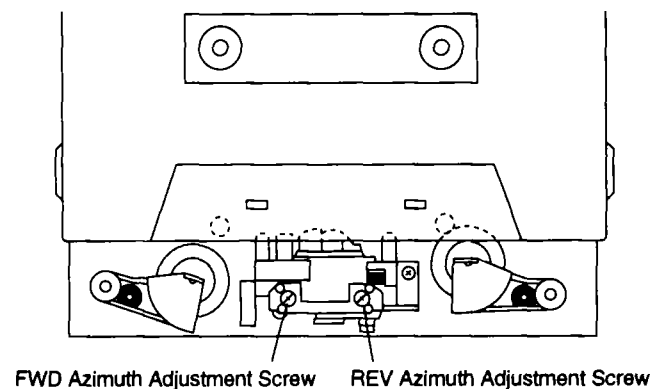

Fig. 2-3 Head Azimuth Adjustment
- Adjustment points and test points are shown in Fig. 2-3 and Fig. 2-4.